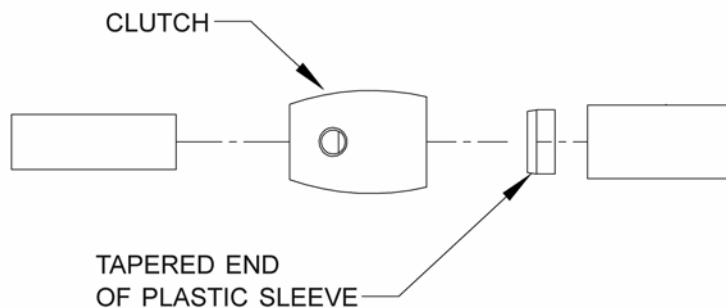

Figure 1
## **To Assemble Fixture** (Please see Figure 1 and illustrations on Page 3)
2. Thread the wires from the fixture pipe (H) into and through the canopy pipe (K) and up through the canopy (M). Unscrew the clutch (I) from the canopy pipe (K); slide it across the wires and onto the fixture pipe (H). Follow this with the clutch sleeve (J), so that the clutch sleeve nests in the clutch.
**Important:** To ensure full connection strength, make sure the tapered end of the plastic clutch sleeve is oriented toward the clutch (Figure 1).